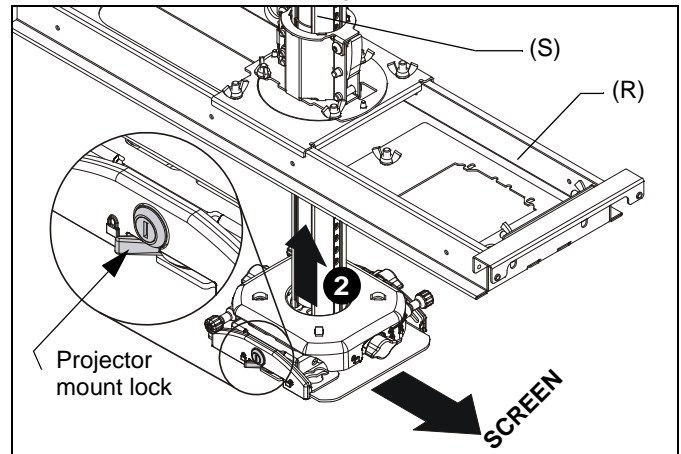

Figure 17
NOTE: Be sure to line up the projector mount so that it faces the screen. The projector mount lock will appear on the left side of the assembly. (See Figure 17)
2. Install projector mount and column (S) from underneath and up through suspended ceiling plate assembly (R). (See Figure 17)